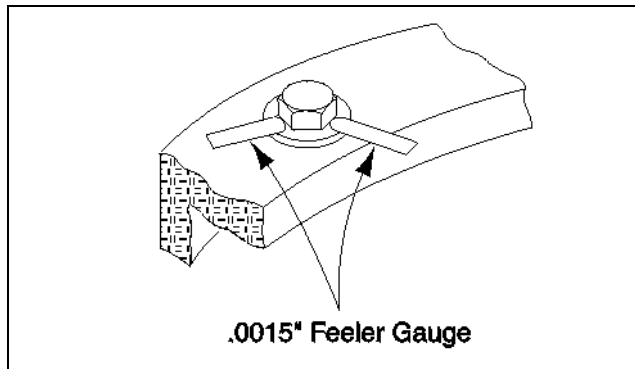

Figure 3-35. Swing Bolt Feeler Gauge Check
- b. At the positions indicated on Figure 3-35. try to insert a.0015 feeler gauge between the bolt and hardened washer at the arrow indicated position.
- d. At the position indicated on Figure 3-35., try and insert the 0.0015" feeler gauge between the bolt head and hardened washer at the arrow indicated position.